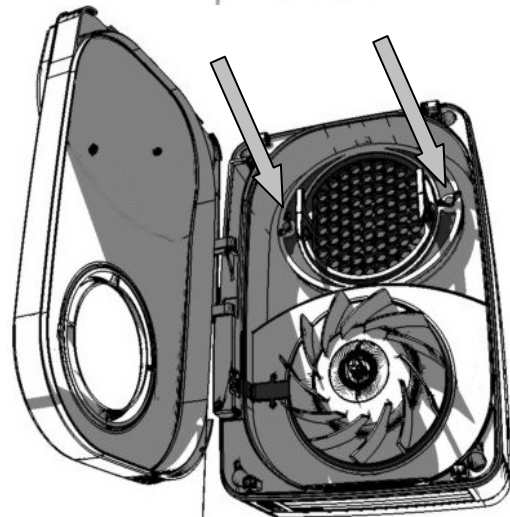

Fig.12
10) Fit Heat Exchanger Retaining Clamp with screws provided Fig 12.